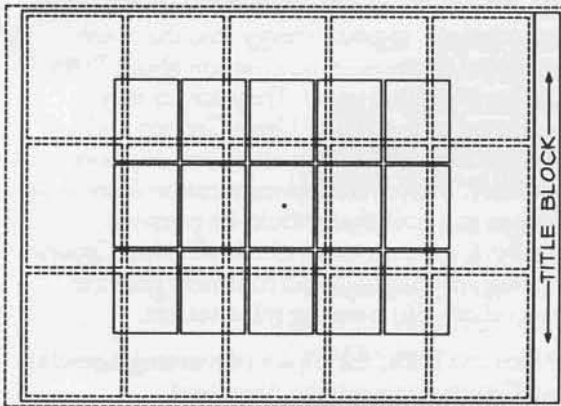

Figure 4
- Enter the **Template** menu (T or t), set the enlargement factor to 64 (S4, F6, 64, Enter, Right Mouse button). Place the "Master" symbol as above. Figure 4 illustrates the display at this point.